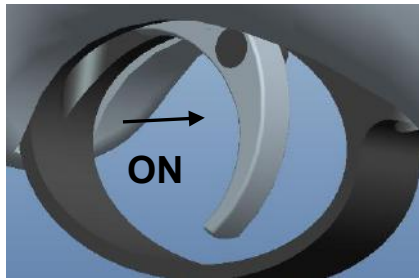

Fig 1
- ❖ To set the safety to “ON”, push in the safety, see the arrow direction in Fig 1. In this position, the gun cannot be fired.
Fit the filler nozzle to the air-line of the charging equipment, which must incorporate a pressure gauge. Ensure both filler nozzle and the rifle filler are clean from dirt, then push the nozzle into the filler hole (the basic part No.7 in Fig 1). We recommend you fill 19MPa pressure to the air reservoir. Do not exceed the maximum pressure 20 MPa. The rifle can be charged to maximum 25MPa with consistent valve.